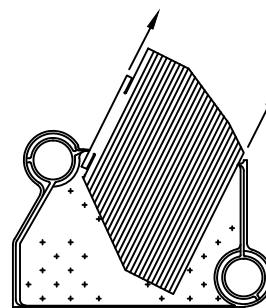

Figure 48: Boiler Flueway Cleaning
8. Check burners to be sure they do not contain foreign matter or restrictions. Clean burners with a soft bristle brush, blow any dirt out with compressed air or use a vacuum cleaner. See Figure 48.
- E. Clean Boiler Flueways.** See Figure 48.
5. Remove flue baffles. Refer to Figure 48 for instructions on how to remove baffles from flueways. Remove any accumulated scale or soot.
6. Thoroughly clean flueways with flue brush, removing all scale and soot. See Figure 48.
8. Reinsert baffles into flueways by reversing steps given in Figure 48. Tabs at top of each baffle should rest on top of flue pins.